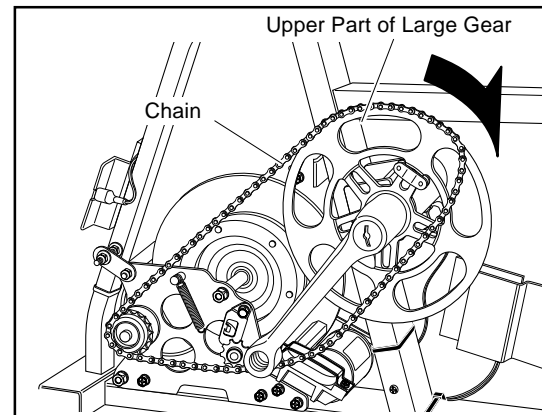

Fig. 5
3. Assemble the chain. Chain should first be set on the free wheel before setting it to the upper part of the large gear. Then, a forward rotation of the crank will enable the complete setting on the large gear. (Fig. 5)